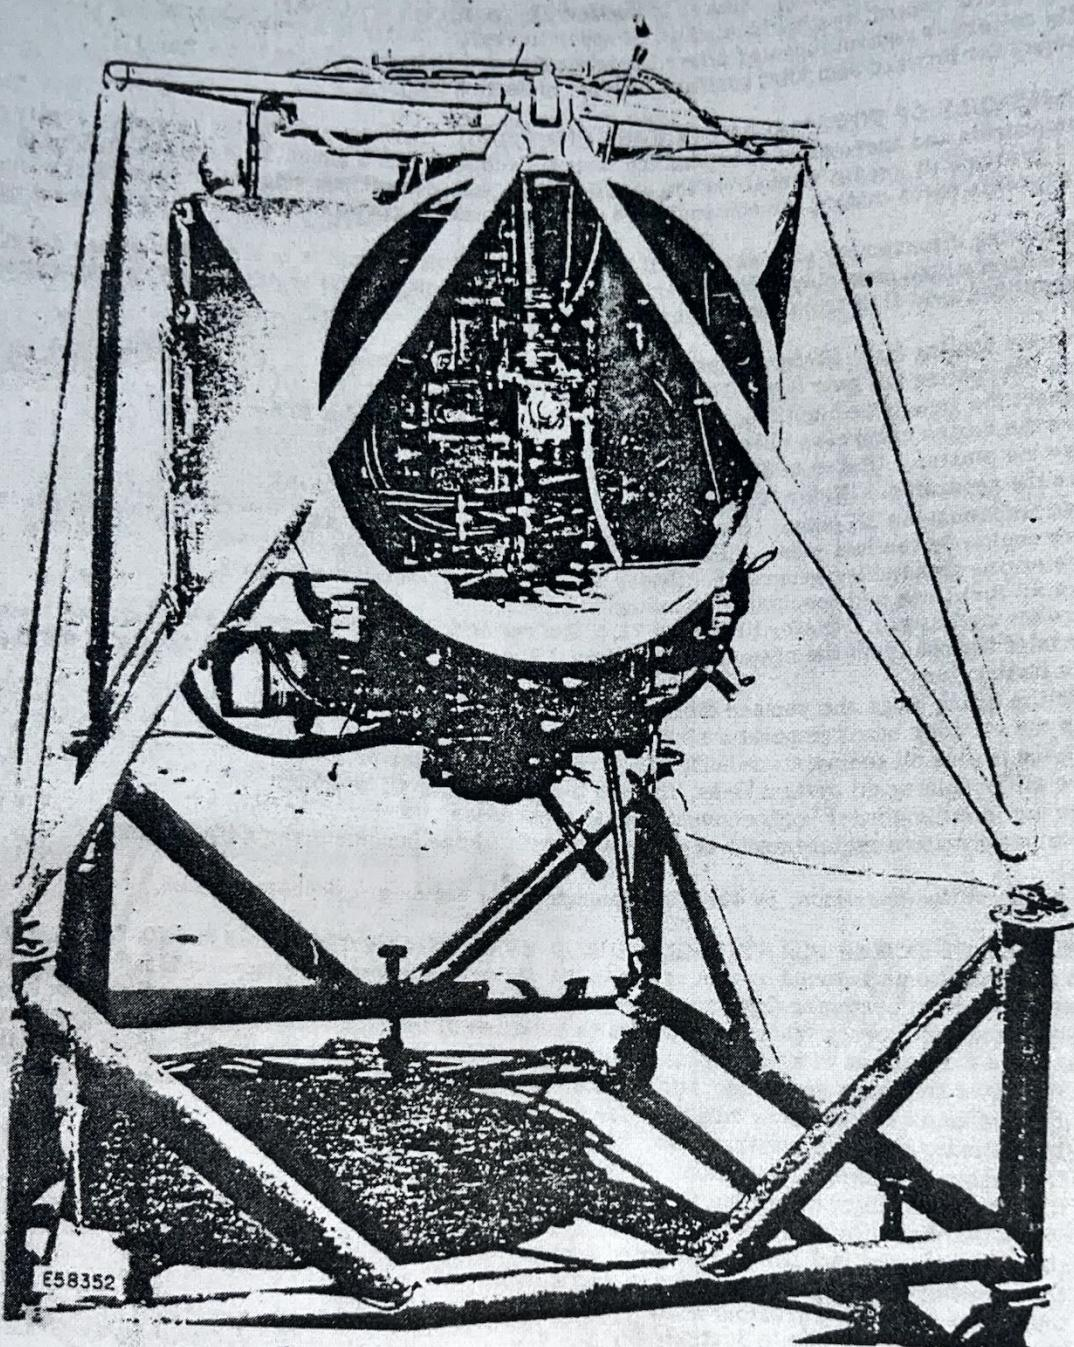

Figure 70-1-3. Engine Mounted on Shop Stand
(6) Lift the power plant sufficiently to swing the engine clear of the helicopter.
(7) Place the power plant in a suitable engine stand. (See figure 70-1-3.)